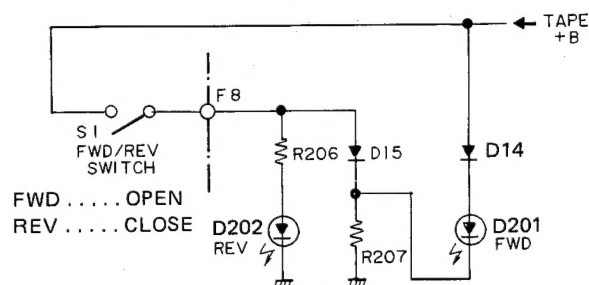

Fig. 17
• Direction Indicator Section (Fig. 17)